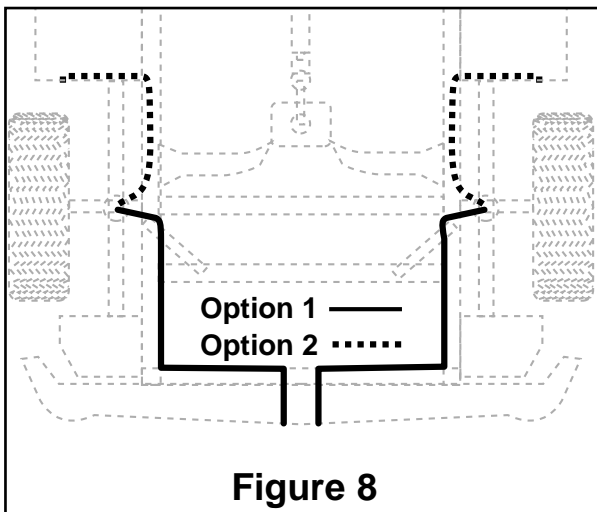

Figure 8
- A. Select a location for the inflation valves in the rocker panel flange, or rear bumper, assuring that each valve will be protected and accessible with an air hose (Figure 8).